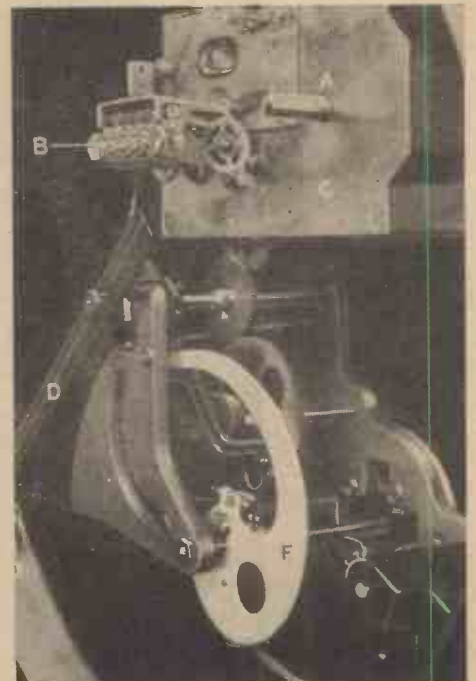

Fig. 3. Interior of indicating float-type meter, showing integrator.
Owing to the square law relation between rate of flow and differential head, it is necessary to provide a conversion gear to obtain an evenly divided scale. With instruments of the type described, this is done by means of a suitably shaped cam (F). (See Figs. 3 and 5.)
An integrator of the direct-reading cyclometer type can be fitted to either the Indicating or Recording Meter (see Fig. 3). This additional accessory is normally supplied with a hand-
wound spring-driven clockwork, but can be arranged with synchronous motor electric drive, if desired, at the same price. In Fig. 3 (C) is the clockwork, (A) the winding square, (E) the stop-start mechanism, and (B) the five-figure counter.